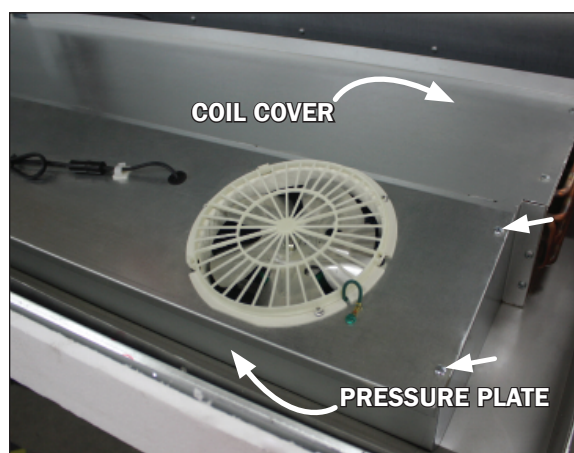
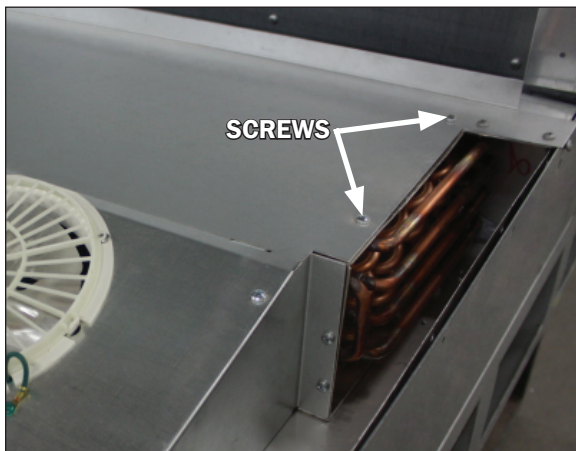

Fig. 10 Pressure plate, screw locations and coil cover (topside)
Fig. 13 Coil cover removal
2. To access the underside of the fans first remove the screws on the top ends and front sill of the pressure plate cover (Fig. 10). Lift the pressure plate by use of the
2. Remove the top two screws at both ends of the coil cover (Fig. 13), as well as the screws from the top ends and front sill of the pressure plate cover (Fig. 10). **Be sure to save the removed screws for reassembly.**